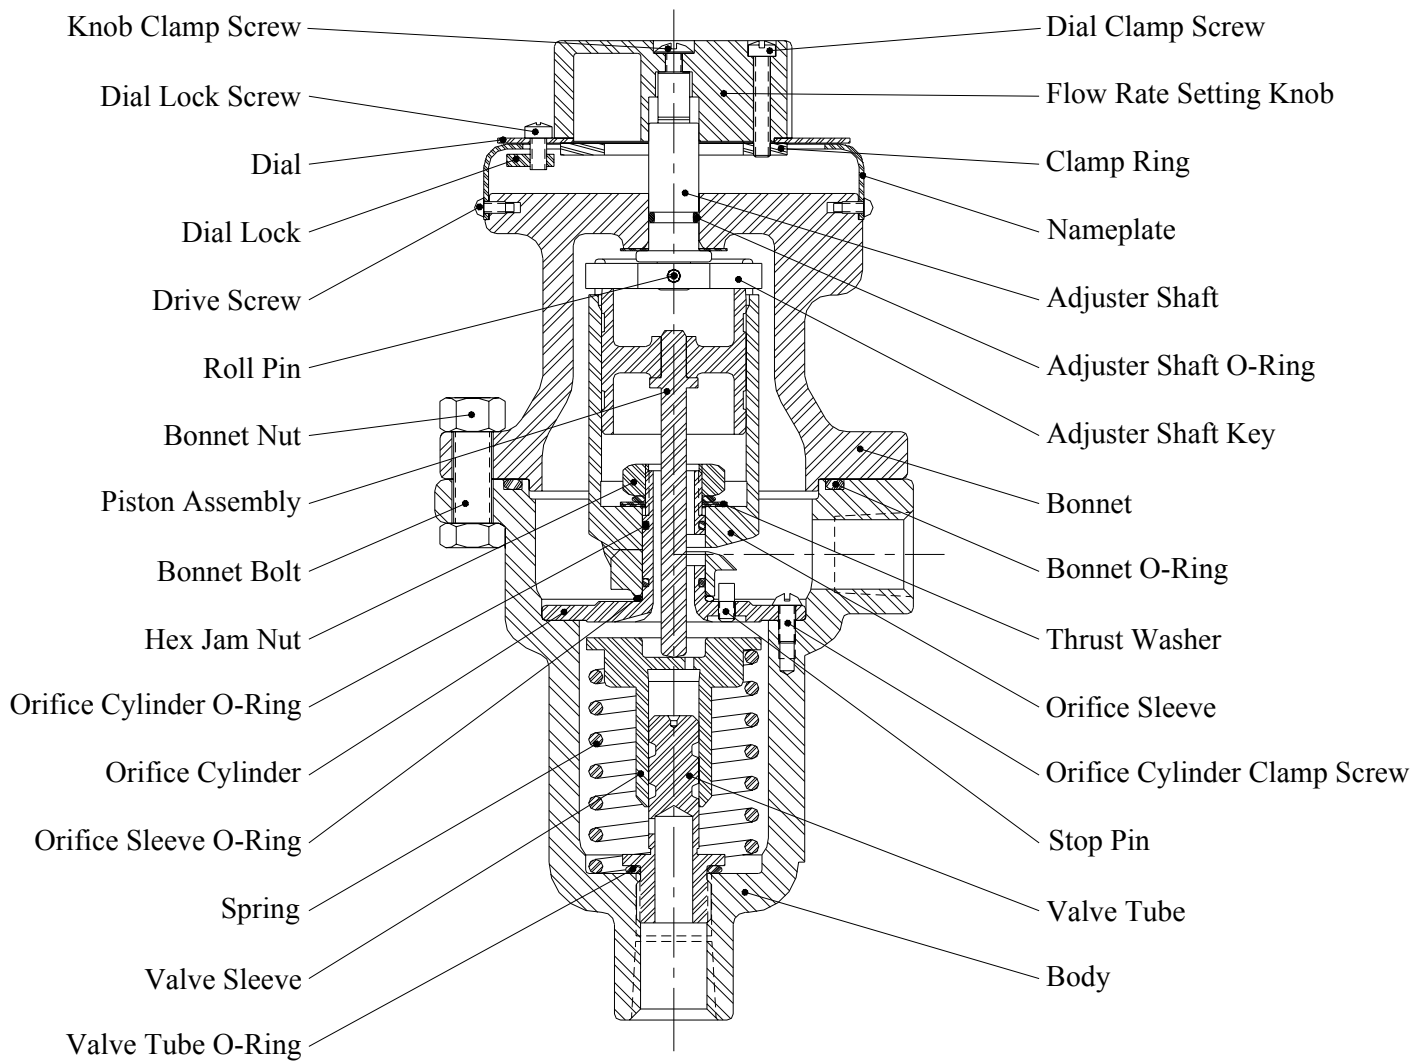

Figure 1
Note: If the flow rate setting knob does not turn, loosen the dial lock screw. (See fig. 1)
- d) Lower the bonnet slowly, at the same time turning the flow rate setting knob until the key on the end of the adjuster shaft fits into the slots in the orifice sleeve, and the shoulder on the lower face of the bonnet fits into the body. When properly assembled, bonnet will seat squarely on the body all the way around. (See fig. 1)
16. Replace body O-ring, then lower the bonnet slowly, at the same time turning the flow rate setting knob until the key on the end of the adjuster shaft fits into the slots in the orifice sleeve, and the shoulder on the lower face of the bonnet fits into the body. When properly assembled, bonnet will seat squarely on the body all the way around. (See fig. 1) See that the pointer is in front where set point can be read. Replace and tighten the bonnet bolts. (See fig. 4)